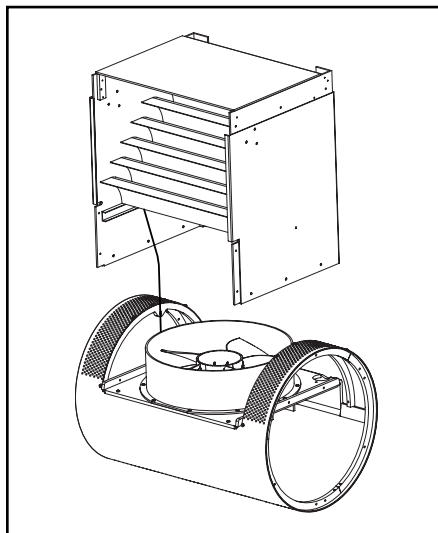

Fig. 6.4A
6.5 Carefully remove the protective film encasing the upper housing. Place the upper housing into the opening of the cylindrical base (Fig 6.4A). The hydraulic hoses connected to the base should be aligned with the back of the upper housing. Make sure that the stainless steel bonding wire attached to the motor mount is positioned inside of the upper housing.